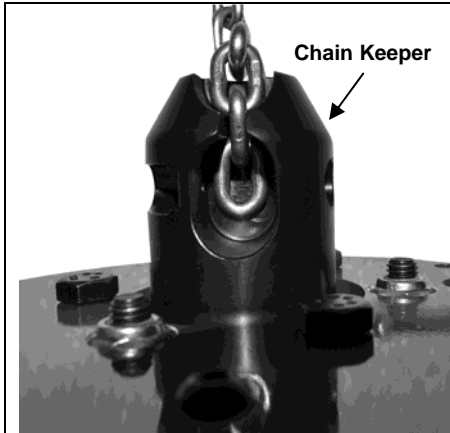

Figure 2-12
- 1) Place the chain into the chain keeper. (Refer to Figure 2-12)